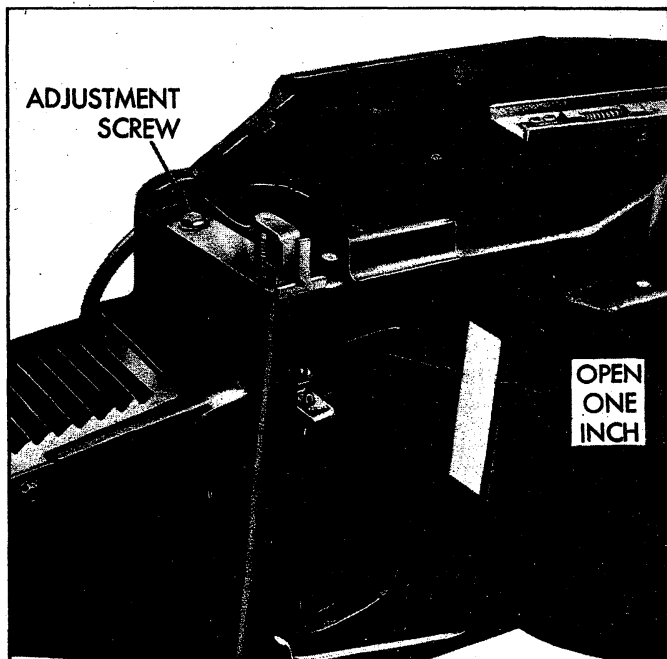

Fig. 109—Mode Shift Vacuum Diaphragm
4. Adjust mode door without vacuum applied to diaphragm. The door should be open one inch from sealing against the air distributor opening (inside of case). (Figure 109).